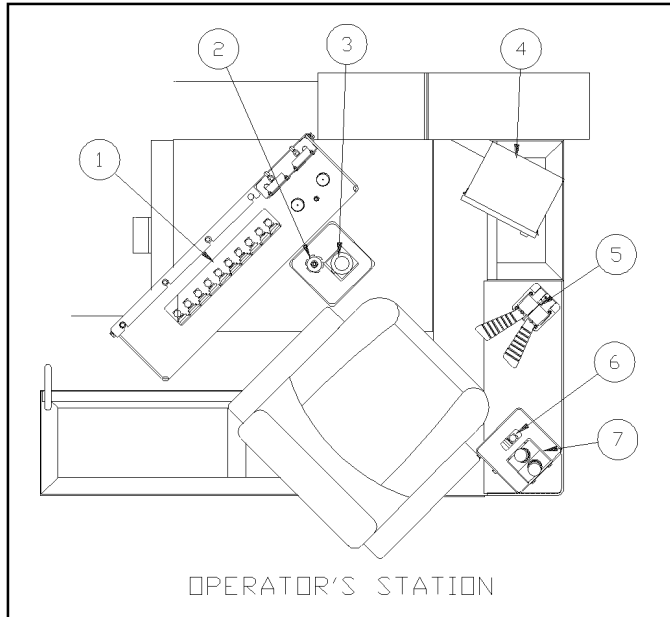
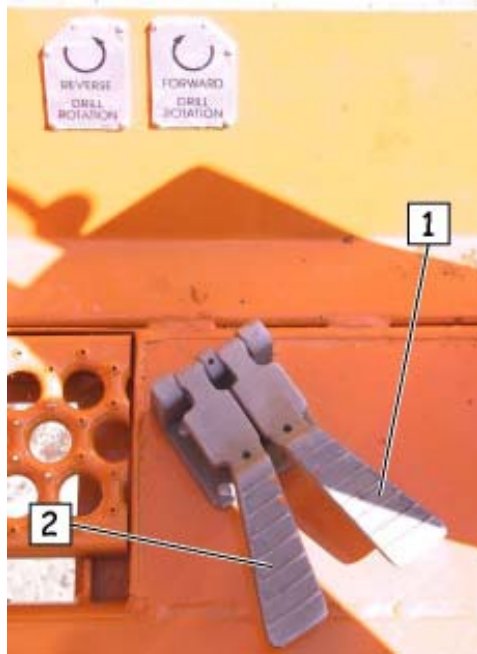
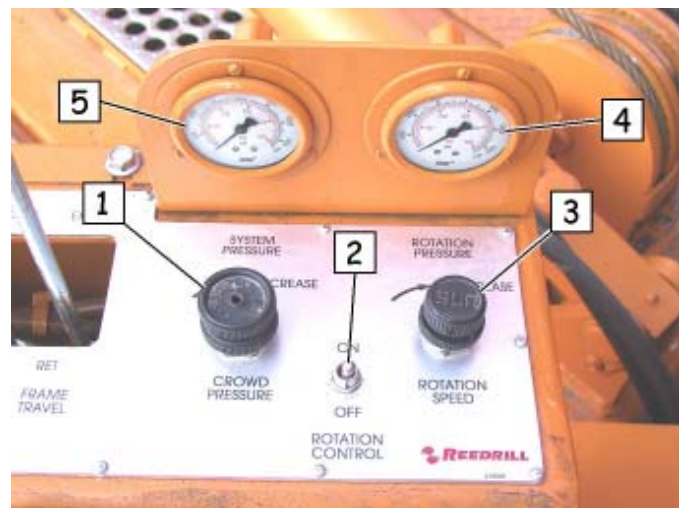

Fig. 3-1 650 Operator's Station
Fig. 3-4 Kelly Rotation Selector Foot Pedal
Fig. 3-4a Main Control Valve Console - Right Side
The forward/reverse pedal (item 5, fig. 3-1 and fig. 3-4) controls the direction and of rotation and speed of the auger (kelly) bar. The rotation speed can also be controlled by the rotation speed control valve to the right of the main valve bank. See fig. 3-4a.
After selecting the proper gear, auger rotation and speed is controlled by the kelly rotation foot pedal (fig. 3-4).
1. Use the foot control valve (fig. 3-4). As the pedal is depressed the rotation speed increases.
2. Use the rotation speed control valve (item 3, fig. 3-4a). To activate the valve, turn the rotation control switch (item 2, fig. 3-4a) to ON. Turn the knob CLOCKWISE to INCREASE rotation speed. You can set the rotation speed and not have to keep your foot on the foot pedal. However, you can still use the foot pedal to INCREASE the rotation speed. When the rotation control switch is turned OFF, the rotation control valve is non-functional.